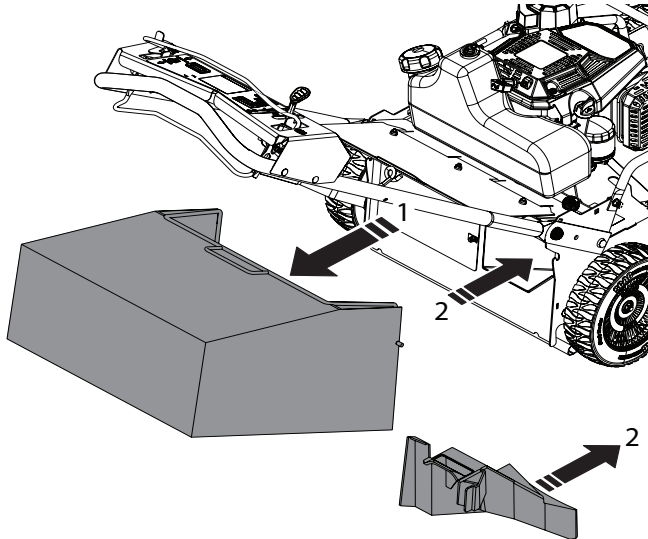

Figure 6-11. Mulch Conversion
1. Lift the rear cover and remove the grass collection bag from the mower. See Figure 6-11.
2. Insert the rear discharge plug into the cutter deck. See Figure 6-11.